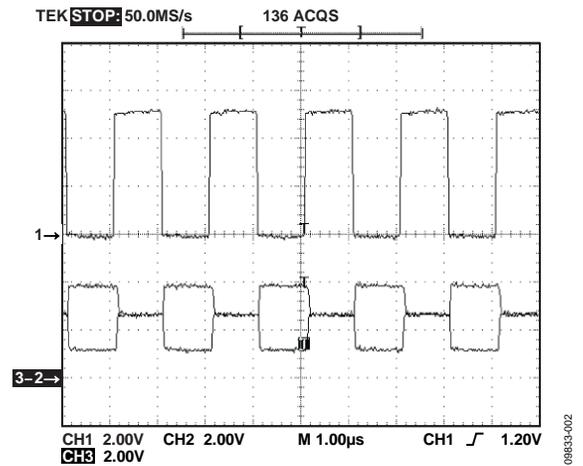
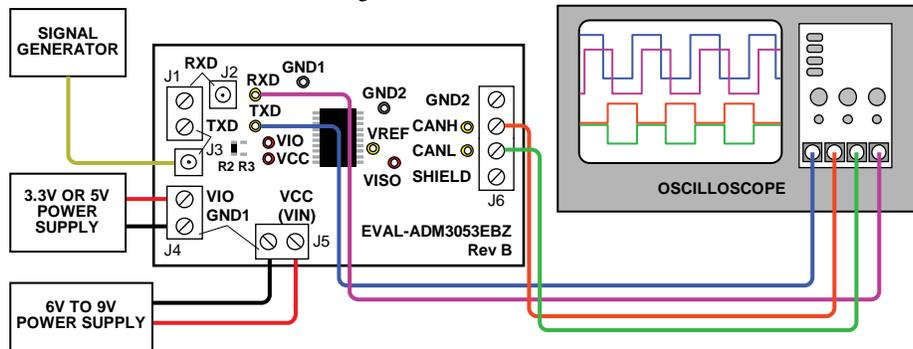

Figure 2. ADM3053 TXD, CANH, and CANL Signals
Figure 3. Basic Isolated CAN Transceiver Evaluation Board Operation
Changes to Setting Up the Evaluation Board Section and Figure 3 3
The EVAL-ADM3053EBZ evaluation board default configuration is shown in Figure 3. In the default configuration, R2 is fitted with a 0 Ω resistor, and R3 is open, which allows VIO to be powered by 3.3 V or 5 V on J4, corresponding to the logic levels required for TXD and RXD. A power supply with a voltage of 6 V to 9 V is required on the input supply, Pin 8 (IN) of the on-board low dropout regulator, LDO (V_{CC} on J5). The on-board LDO generates the required 5 V to the ADM3053 V_{CC} pin. By fitting R3 with a 0 Ω resistor and removing R2, VIO of the EVAL-ADM3053EBZ is connected to the ADM3053 V_{CC} pin, and the complete board can be powered by a 9 V battery (for example, for electromagnetic current (EMC) testing).
Figure 3 shows an example operation of the EVAL-ADM3053EBZ. Connect a clock generator on TXD and set up a 500 kHz square wave clock with the output swinging between 0 V and 5 V. Connect the scope probes to the test points: TXD, RXD, CANH, and CANL. Figure 2 shows an example oscilloscope plot; Channel 1 shows the TXD signal, and Channel 2 and Channel 3 show the CANH and CANL signals.